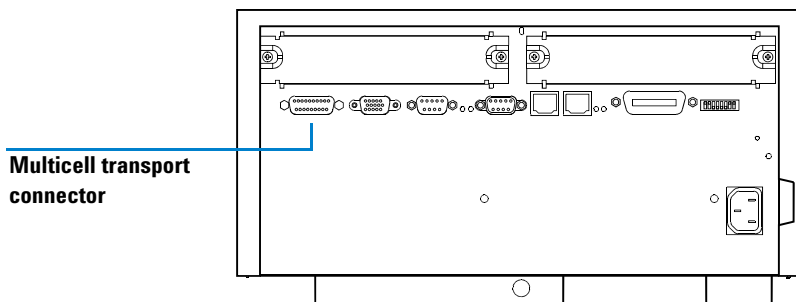

Figure 32 Connector at Rear of Spectrophotometer
- 3 Plug in the connector of the multicell transport at the rear of the spectrophotometer. See Figure 32 on page 121.